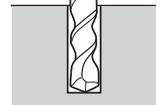
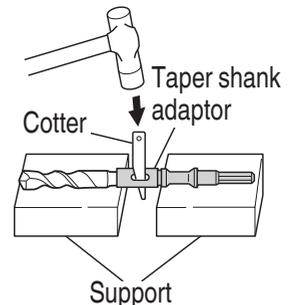

Fig. 12
Fig. 13
- (1) Install drill bit with taper shank in the taper shank adaptor. (**Fig. 12**)
- (2) Turn the power on and drill a base hole.
- (3) After cleaning out dust with a syringe, attach the plug to the anchor tip and drive in the anchor with plug to the anchor tip and drive in the anchor with a manual hammer.
- (4) To remove the drill bit with taper shank, insert a cotter into the slot of the taper shank adaptor, place supports under the Rotary Hammer and tap the cotter with a manual hammer. (**Fig. 13**)